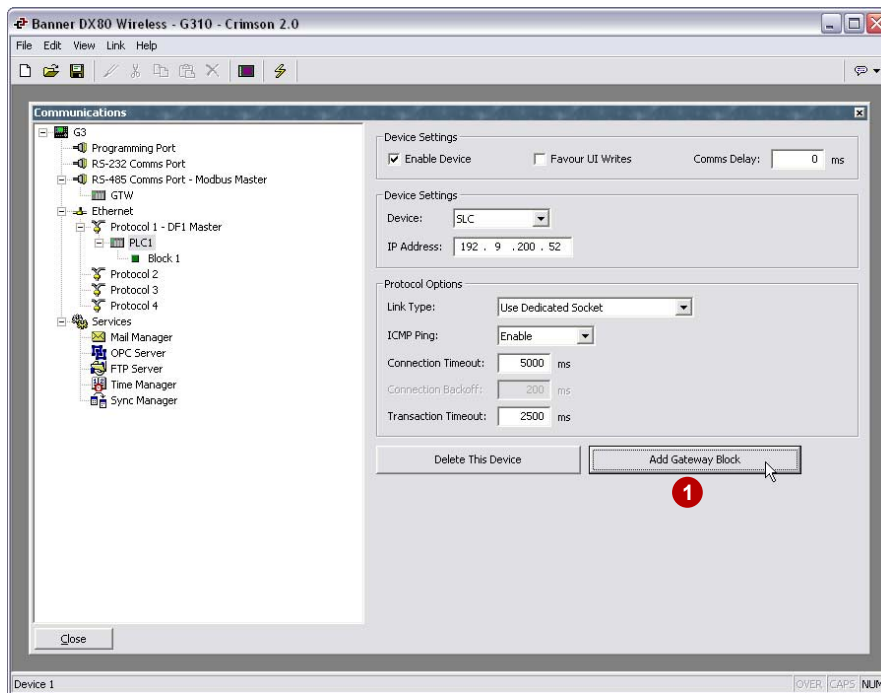

Figure 29
1. Click the button Add Gateway Block, a new block is created under PLC1 (Figure 29)